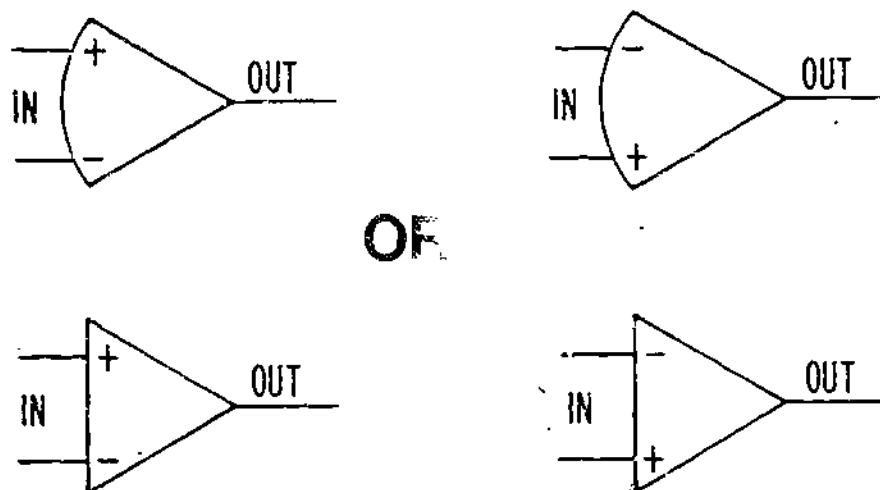

Figure 1
2. Various schematic symbols for an IC opamp are shown in Figure 1.
As you may recall, the (+) or (-) at each input in Figure 1 indicates whether the applied signal will or will not be inverted at the output. The (-) indicates an inverting input. If the input signal is applied to the (-) input, the output will be 180° out-of-phase with respect to the input. The (+) indicates a non-inverting input. If the input signal is applied to the (+) input, the output signal will be in-phase with respect to the signal.